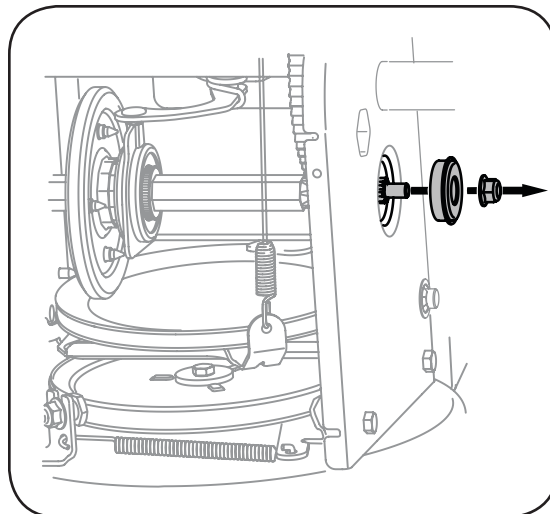

Figure 6-11
4. Carefully remove the hex nut and washer which secures the hex shaft to the snow thrower frame and lightly tap the shaft's end to dislodge the ball bearing from the right side of the frame. See Figure 6-11.